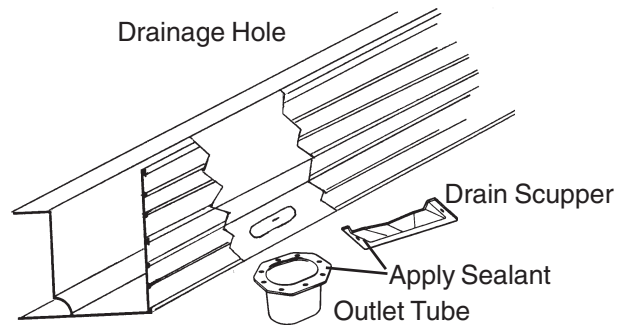

Figure 7
9. Install standard drain scuppers (P521) for drainage (See Figure 7.)